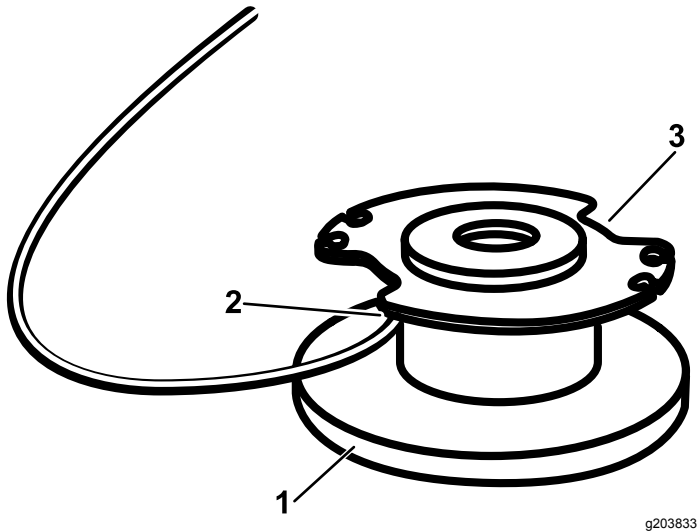

Figure 20
4. Insert the string into the anchor hole (Figure 20). Wind the string onto the spool in the direction shown by the arrows on the spool.